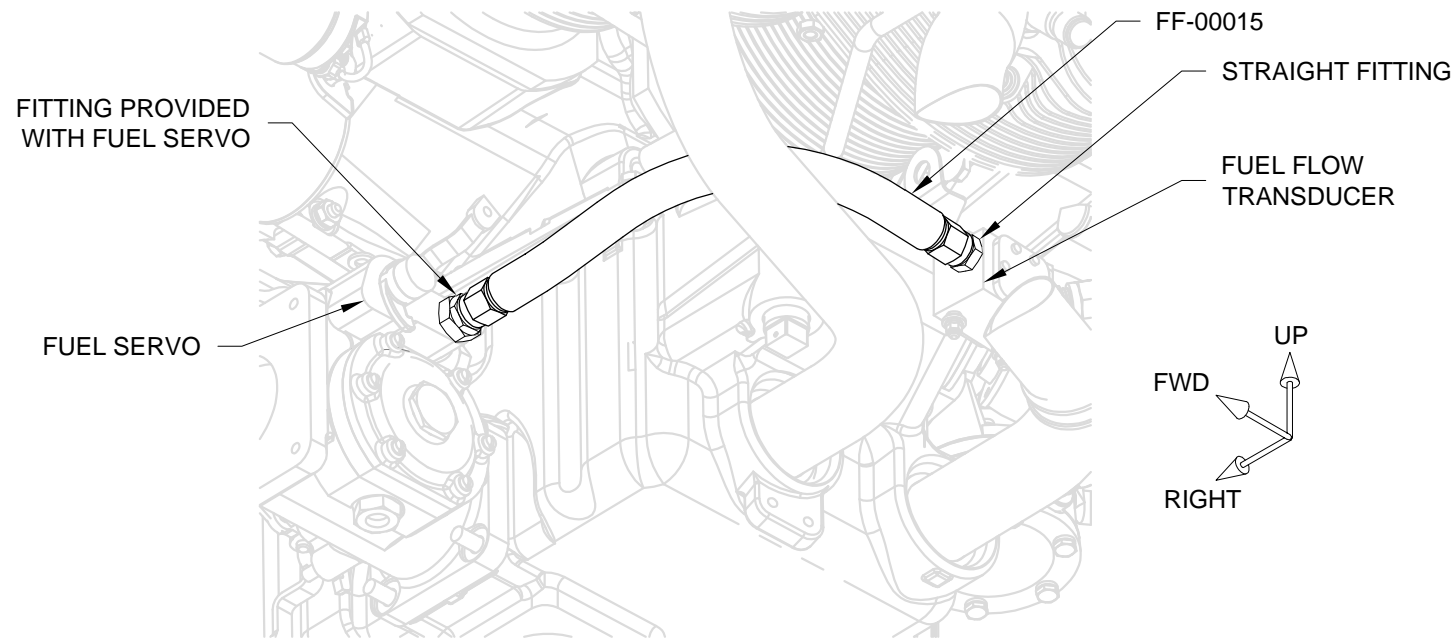

FIGURE 1: CONNECTIONS AT FUEL FLOW TRANSDUCER & FUEL SERVO
Step 1: Attach the FF-00015 Hose to the straight fitting at the forward end of the fuel flow transducer and to the fitting provided with the fuel servo. See Figure 1 and Page 49-05, Figure 3.